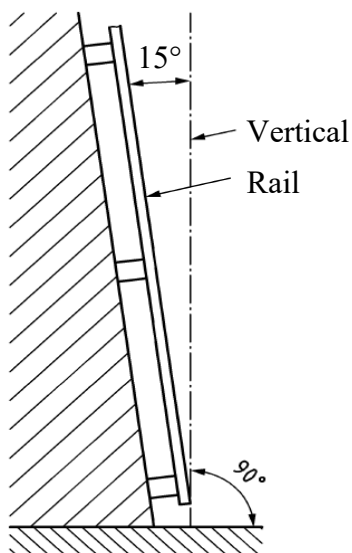

Figure 2: Vertical inclination in space
- The maximum angle of inclination for the straight ladder elements is $\pm 15^\circ$ from the vertical. See Fig. 2.